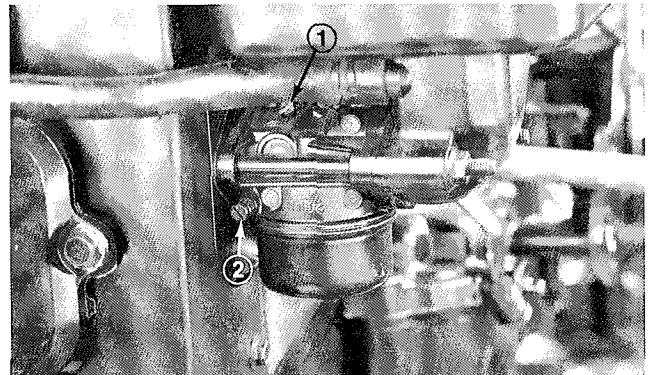

Figure 20
1. Idle Fuel Screw (Fig. 20) — Close screw by gently rotating it clockwise.
2. Rotate — open — the screw 1 turn counterclockwise (Fig. 20).
4. Idle Speed Screw (Fig. 20) — Set the idle speed to 1200 rpm \pm 75 RPM by turning the idle speed screw in or out. Check speed with a tachometer.
5. Idle Fuel Screw (Fig. 20) — With throttle in slow position, turn screw out (counterclockwise) until the engine speed decreases (rich). Note position of the screw.